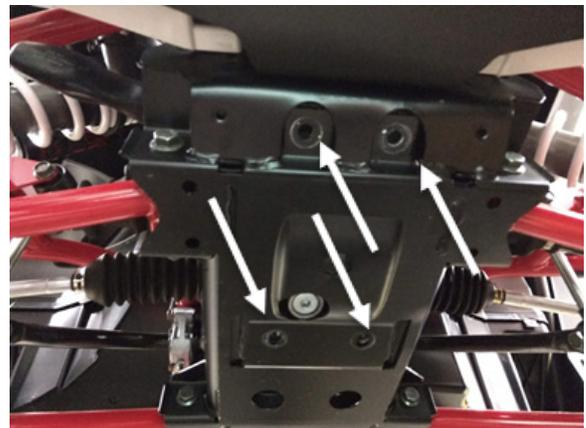

Figure 7
Note: It may be necessary to remove the four (4) bolts that mount the front differential to the bottom of the frame to push the differential back to help gain access for the process in step 6. (Figure 7)